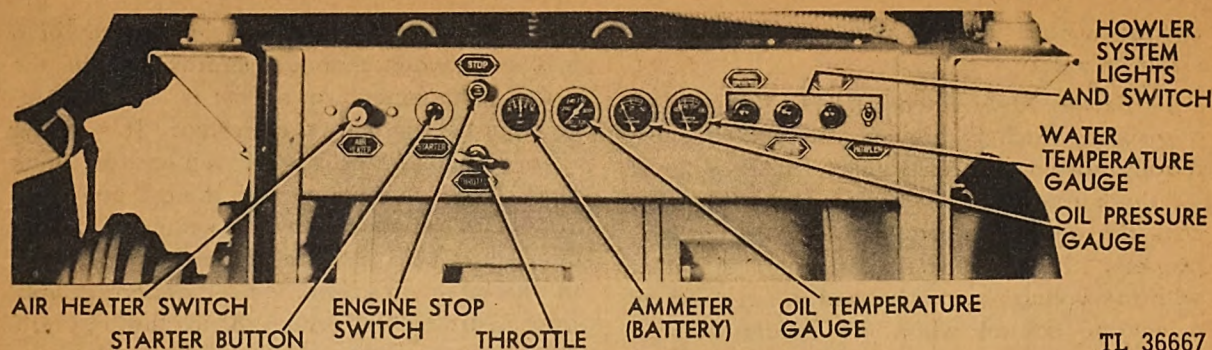

Fig. 15A. Engine Control Panel
11. **Howler System.** The purpose of the howler system is to warn the operator when the water temperature is too high or the oil pressure is too low. If the oil pressure drops below 10 pounds or the water temperature exceeds 205 degrees Fahrenheit, the howler will sound and a warning light will go on. The yellow light indicates that the oil pressure is too low; the red light that the water temperature is too high; the green light that the system is operating properly. (See Figure 15A.)
17. *Engine Control Panel.* The engine control panel contains the necessary controls for starting and stopping the engine and the gauges that indicate the efficiency of engine operation, together with the howler switch and the indicating warning lights of the howler or warning system. (See Figure 15A.)